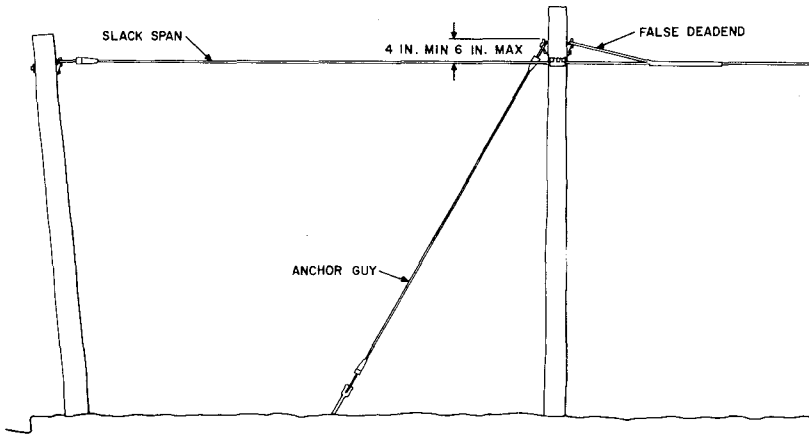

Fig. 1 — Anchor Guy Installed for Slack Span Construction
3.02 Where possible, install an anchor guy on the second pole. For guying purposes, consider the second pole as the strand dead-end pole and determine the size of the guy in the usual manner. Install the guy for placement of a false dead end in accordance with Fig. 1. Where an anchor guy cannot be placed on the second pole,